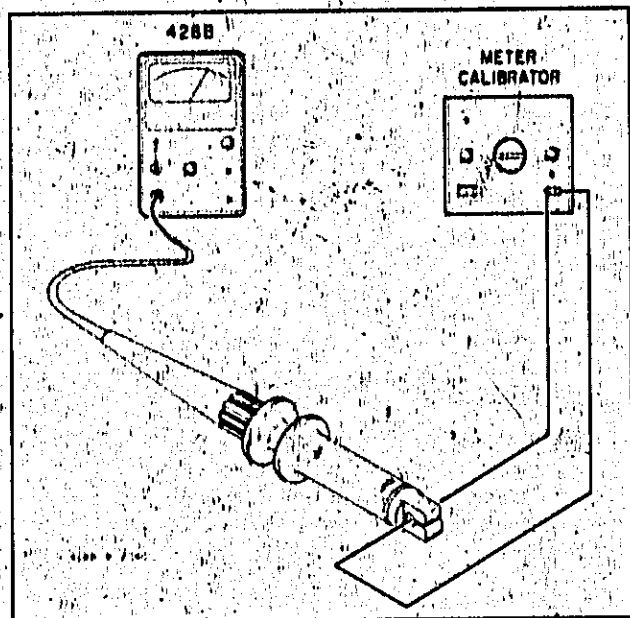

Figure 5-3. Range Check.
5-14. Figure 5-3 illustrates the test arrangement recommended. A dc calibrator is required for this test (see Table 1). If a meter calibrator is not available, any stable current
- Set the meter calibrator to provide a 1 mA output. Connect a test lead between the output terminals of the meter calibrator and loop the test lead through the probe jaws (one loop). See Figure 3-3 and Figure 5-3. The 428B should read 1 mA $\pm 30 \mu$ A.